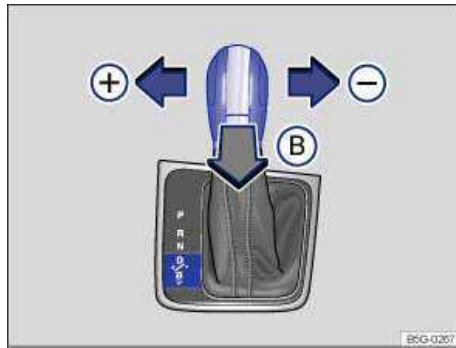

Fig. 128 Selector lever for driving mode: Selecting the recuperation level.
There are a total of 4 brake energy recuperation levels. It is possible to move up and down through brake energy recuperation levels 1 to 3 by tapping the selector lever to the side ⇒ fig. 128 (+) and (-):
- Increase the recuperation level with the selector lever ⇒ fig. 128.